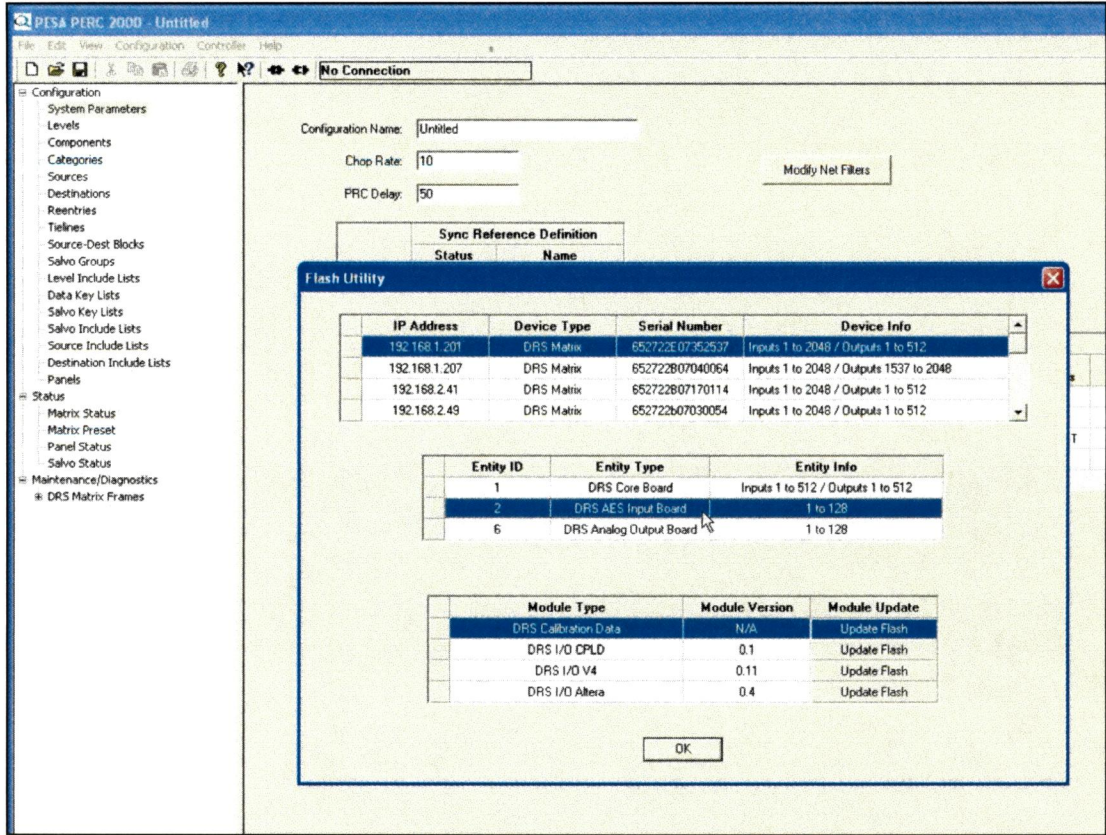

Figure 43. Entity Type Selection
Audio boards are listed in the Entity ID pane beneath the DRS Core Board entry as shown in Figure 43. Notice that the entry identifies each board as to whether it is an Input board or Output board and whether it supports AES or Analog audio. The procedure for reprogramming flash memory on the audio boards is identical to the procedure just presented for the DXE Core Board:
11. Clicking on an entry in the Entity ID list selects that entity as the component on which you wish to perform flash memory reprogramming. For this example we want to reprogram the flash on the **DRS AES Input Board**. Highlight the **DRS AES Input Board** entry in the Entity ID listing as shown in Figure 43.